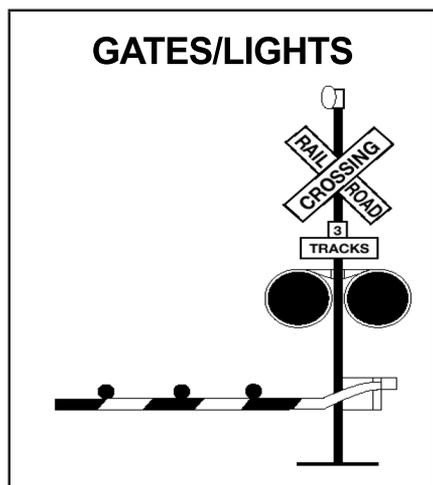

Figure 2.18
**Flashing Red Light Signals.** At many railroad/highway grade crossings, the crossbuck sign has flashing red lights and bells. When the lights begin to flash, stop! A train is approaching. You are required to yield the right-of-way to the train. If there is more than 1 track, make sure all tracks are clear before crossing. See Figure 2.18.
**Gates.** Many railroad-highway crossings have gates with flashing red lights and bells. Stop when the lights begin to flash and before the gate lowers across the road lane. Remain stopped until the gates go up and the lights have stopped flashing. Proceed when it is safe. See Figure 2.18.